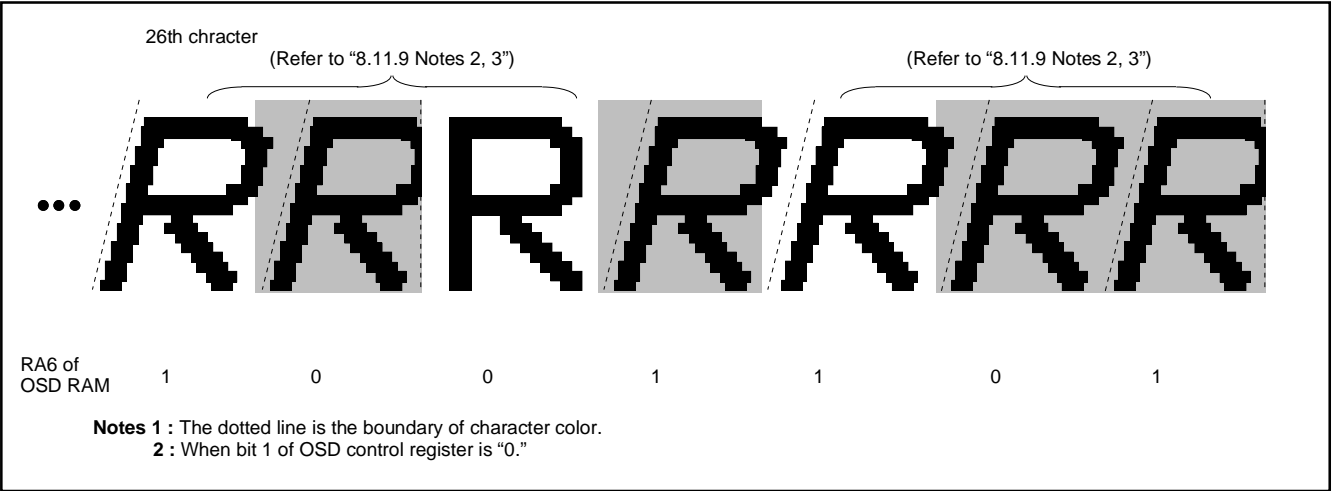

Fig. 8.11.19 Example of Italic Display
- 2: The boundary of character color is displayed in italic. However, the boundary of character background color is not affected by the italic (refer to Figure 8.11.19).
- 3: The adjacent character (one side or both side) to an italic character is displayed in italic even when the character is not specified to display in italic (refer to Figure 8.11.19).